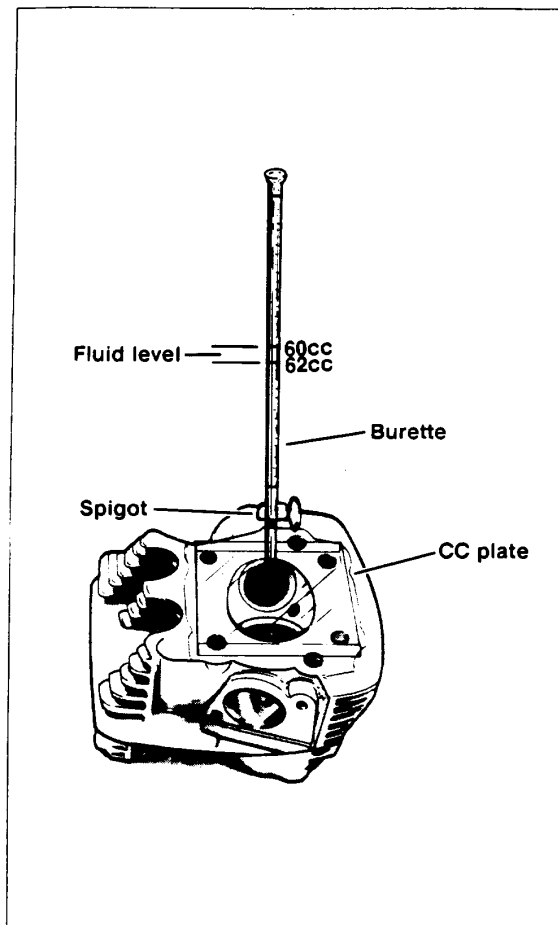

Figure 5. Checking Combustion Chamber Volume
10. See figure 5. Press the plastic plate, grease side down, on the head and slide back and forth in short strokes to insure all surfaces are sealed around the entire perimeter.